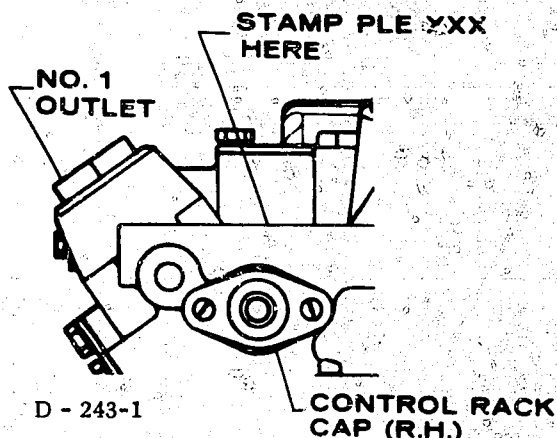

FIGURE 4A - APE SV
1.7 APE 8V pumps have the "PLE" dimension stamped as indicated in Figures 4A or 4B, depending on the location of the rack cap that has the threaded hole for the Mack air cylinder.
1. Check stamped "PLE" dimension per Fig. 4A or 4B.
10. Restamp "PLE" dimension per Figure 4A or 4B.